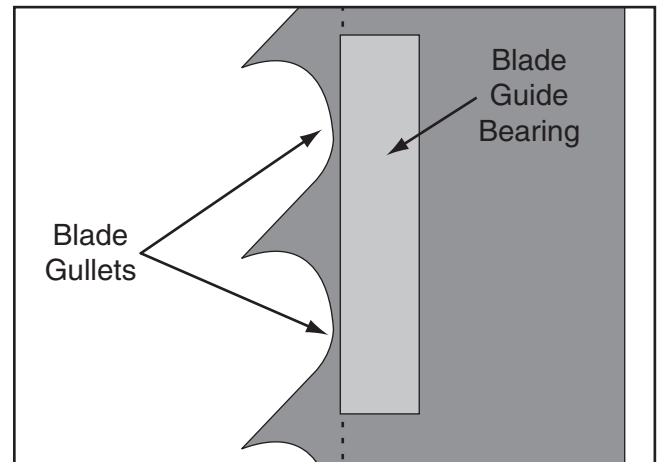

Figure 23. Lateral adjustment of blade guides.
5. Rotate the knurled knob behind the blade guides to position the blade guides laterally, so the front edges of the bearings are just behind the blade gullets as illustrated in **Figure 23**.